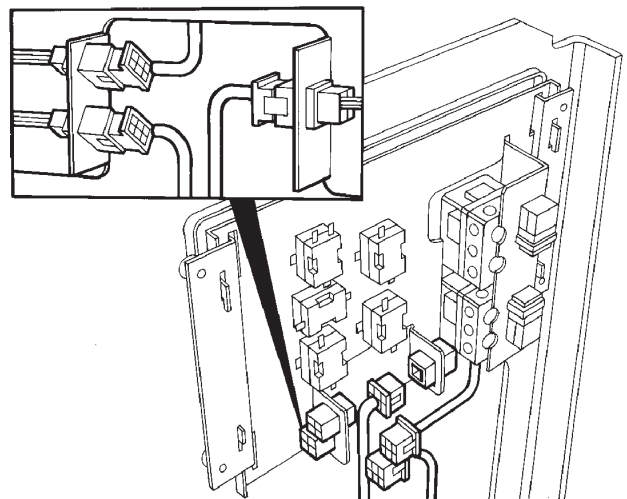

FIG. 33
SEE FIG. 33
4. Re-connect push on connector wire as Fig. 33.